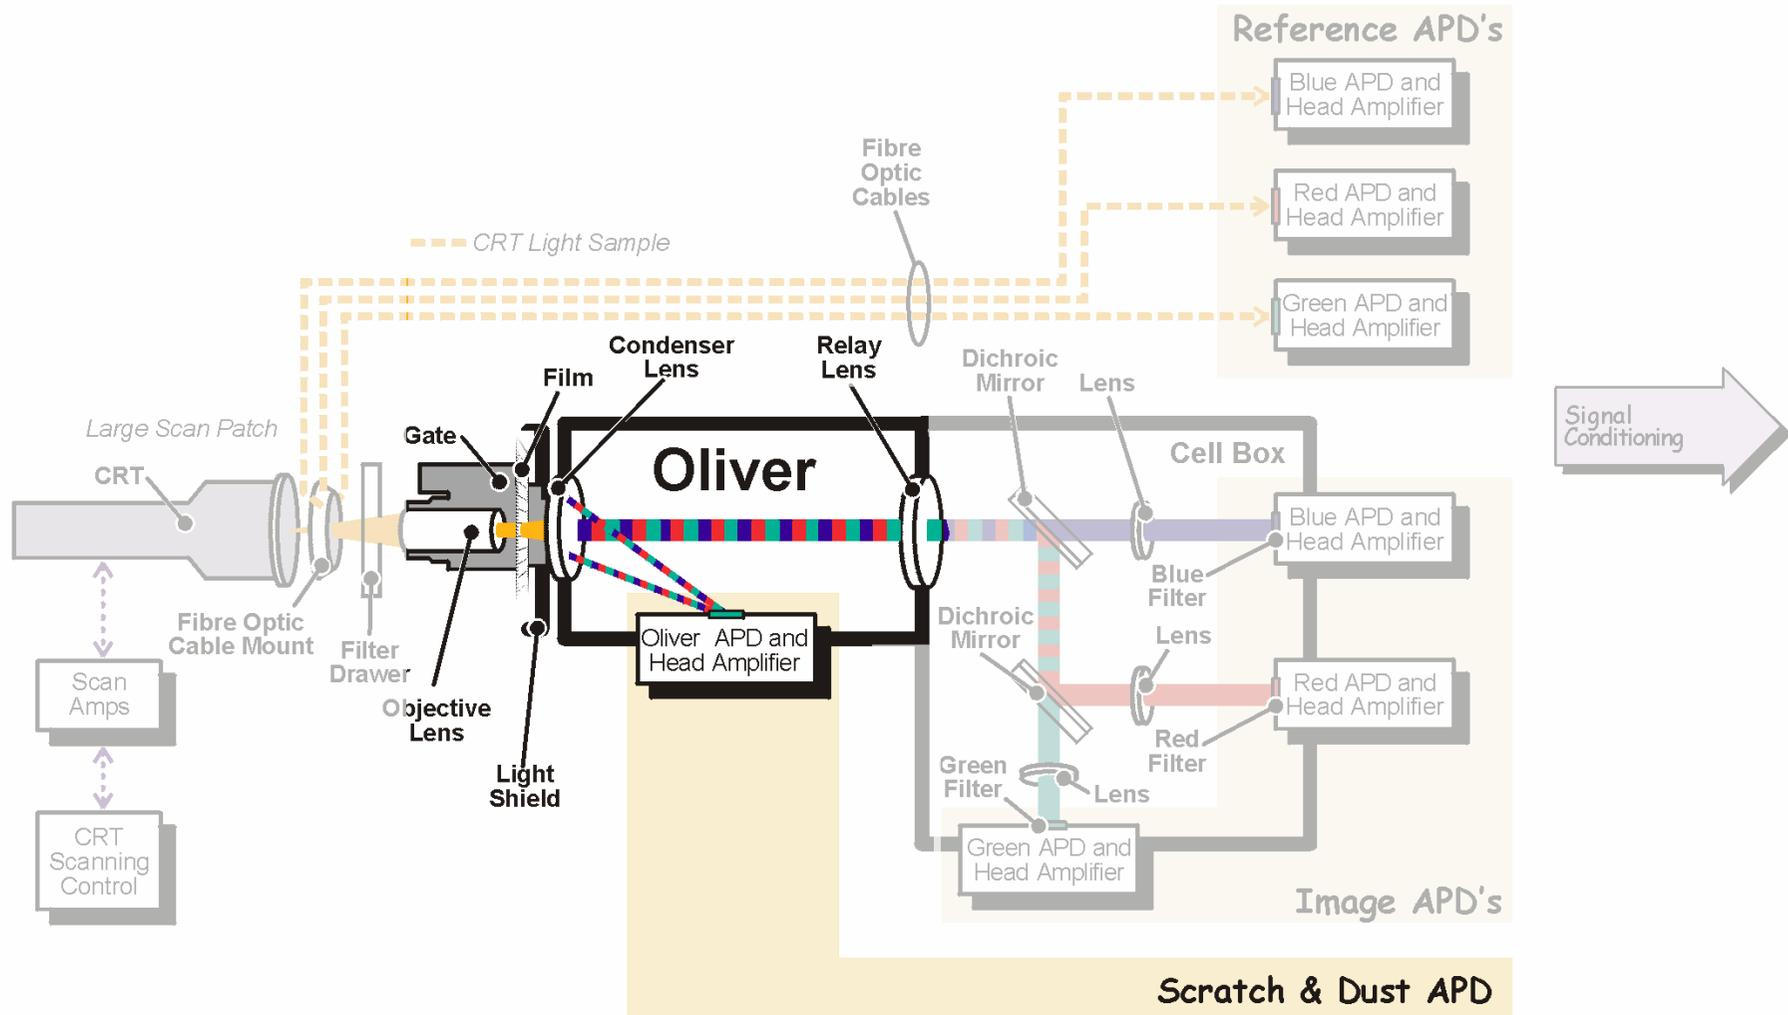

Figure 2 – Oliver Front End Block Diagram
Oliver comprises a patented light gathering and detection system that includes interchangeable condenser and relay optics. Between the two optics the light gathering system transfers the diffracted retrieved image information to an additional (A)valanche (P)hoto (D)iode APD detector. (See Figure 2)